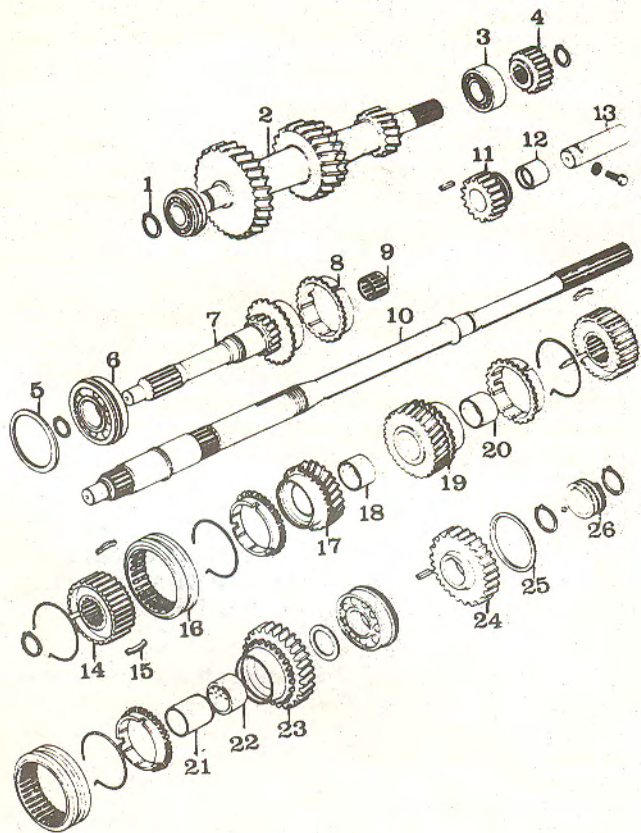

Fig. 3.2. — Exploded view of the gearwheels and shafts fitted to the four-speed gearbox.
Clamp the mainshaft end carefully into a vice, using soft-metal jaws or the special tool 49 0259 440, which fits over the splined end of the shaft and remove the reverse gear nut. A large spanner is necessary. Remove the lock plate, reverse gear and the key (11, 12 and 13 in Fig. 3.2.).
The dismantling of the clutch shaft should be carried out by referring to Fig. 3.2. Remove the clutch shaft from the main shaft and remove the synchroniser ring and the needle roller bearing (8 and 9) from the end of the shaft. Remove the circlip from the front of the shaft and press off the bearing (6) with a suitable press or carefully drive the shaft through the bearing (bearing well supported).